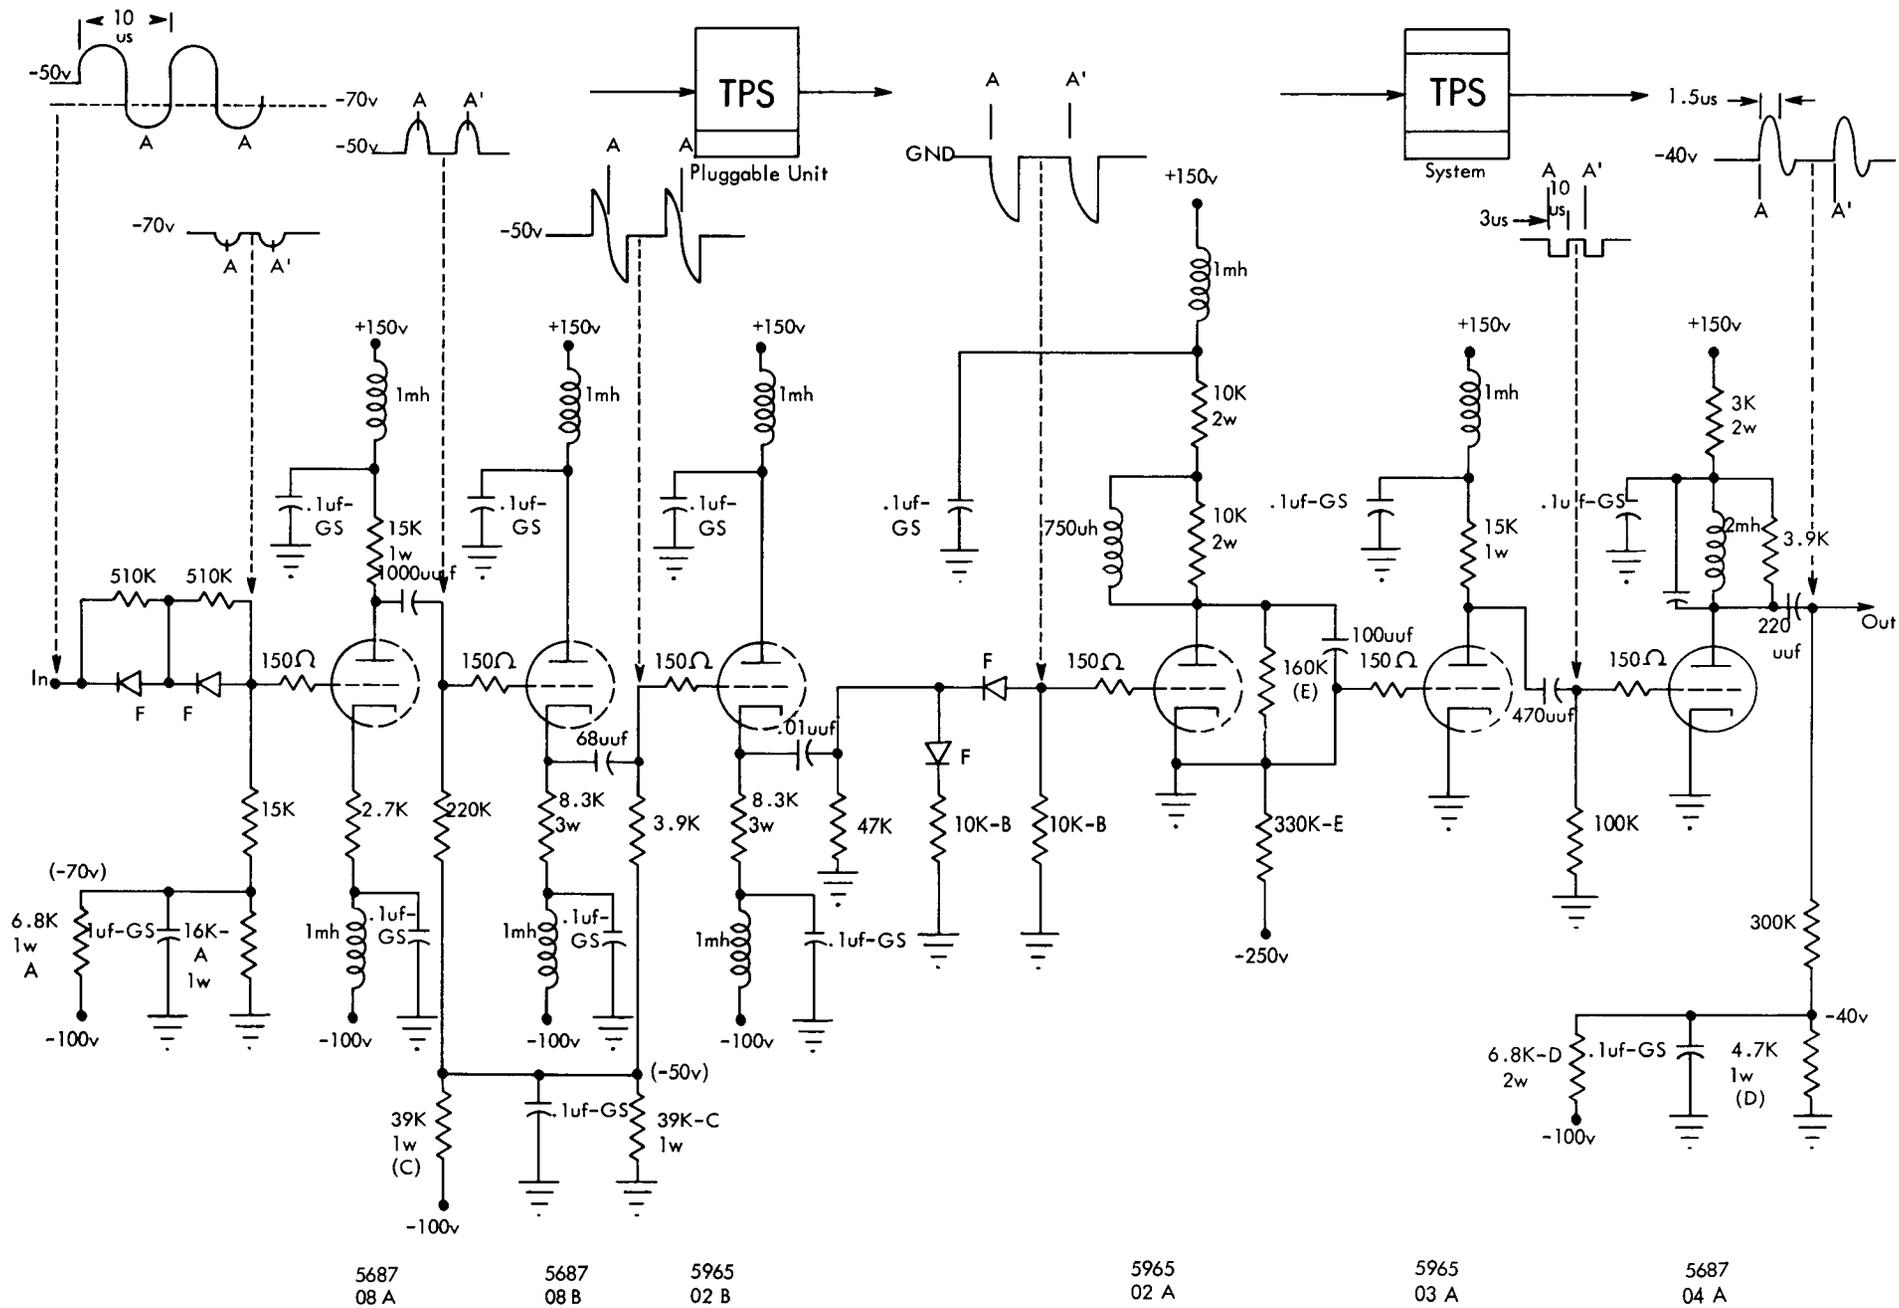

FIGURE B92. TIMING PULSE SHAPER (TPS)
The timing pulse shaper (Figure B92) is designed to produce an output pulse of practically constant amplitude and constant width with a leading edge which is in synchronism with the drum. Its input is from the timing track main amplifier and may vary widely in amplitude. This input is conductively coupled to the shaper, and is biased around -50 volts.
The third stage is also a cathode follower, thus, it does not load the output of the differentiating circuit. Its output is capacitively-coupled into a symmetrical diode circuit. On either the positive or negative shift of the voltage fed to the capacitor, the charging path for the current to the capacitor is the parallel combinations of the 47K resistor and a 10K resistor (the forward resistance of either diode being neglected). This symmetry is necessary to prevent bias buildup that: (1) would cause clipping at some other value than ground and (2) would prevent proper operation of the following stage. The series diode clips off the positive part of the pulse, leaving the negative part intact. It should be noted here that the beginning of the negative transition of this pulse corresponds with the negative peak of the input to the shaper. This is the feature that allows the shaped pulse to be synchronized with the drum. These points are marked A and A' on the theoretical wave forms drawn above each circuit in Figure B92.
The first four stages are identical in construction and operation to the first four stages of the timing pulse shaper (Figure B92), and the signal amplitude required is also identical. The last two stages are standard inverters with increased compensation in the output dividers. This increase is necessary because of the high-input Miller capacitance in the succeeding stages. As in the timing pulse shaper, these inverters shape the pulse by grid-circuit clipping and plate-current-cut-off clipping. The output is practically a square pulse of constant amplitude, but its width is proportional to the amplitude of the input to the shaper.